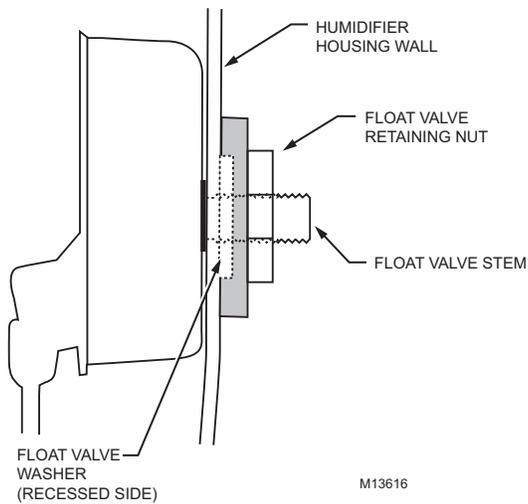

Fig. 25. Re-installing Float Valve.
- d. Place Float Valve Washer over Float Valve Stem with recessed side of washer against the Humidifier wall. See Fig. 25.